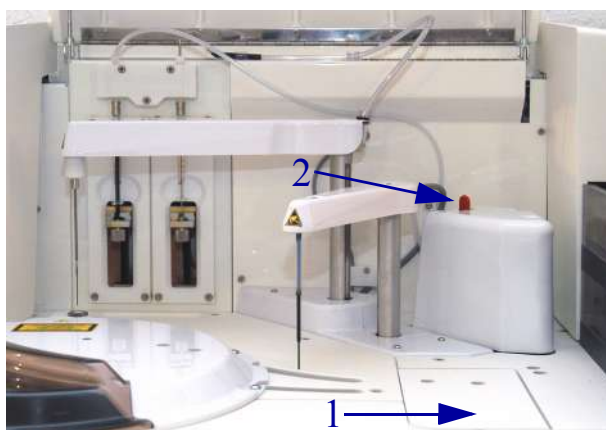

Fig. 9-6: Optic hatch and mixer
Press the front of the optic hatch (1) to open it and lift the mixer up (2) by pressing the red button (see Fig. 9-6: Optic hatch and mixer, page 9-9).